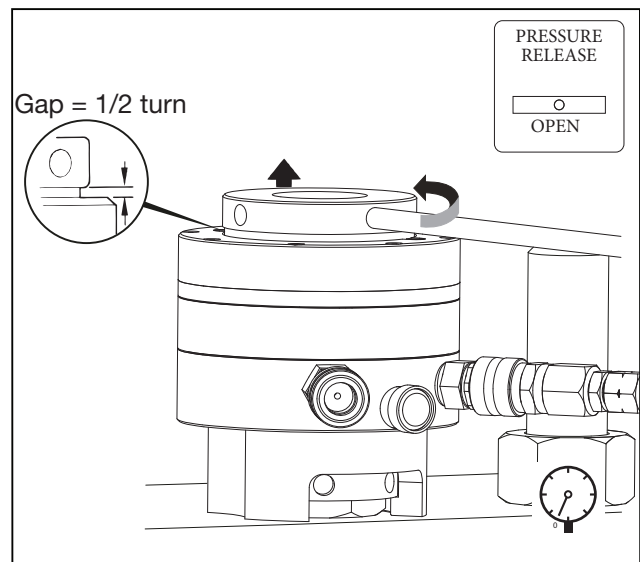

FIGURE 15, TURNING UP THE THREADED PULLER
2. BEFORE applying any hydraulic pressure; examine the puller on each tensioner, the puller should be seated on the ram. Unscrew the puller by 1/2 turn. This will raise the puller above the top washer, preventing the puller becoming locked on to the ram when the bolt tension is released. See Figure 15.